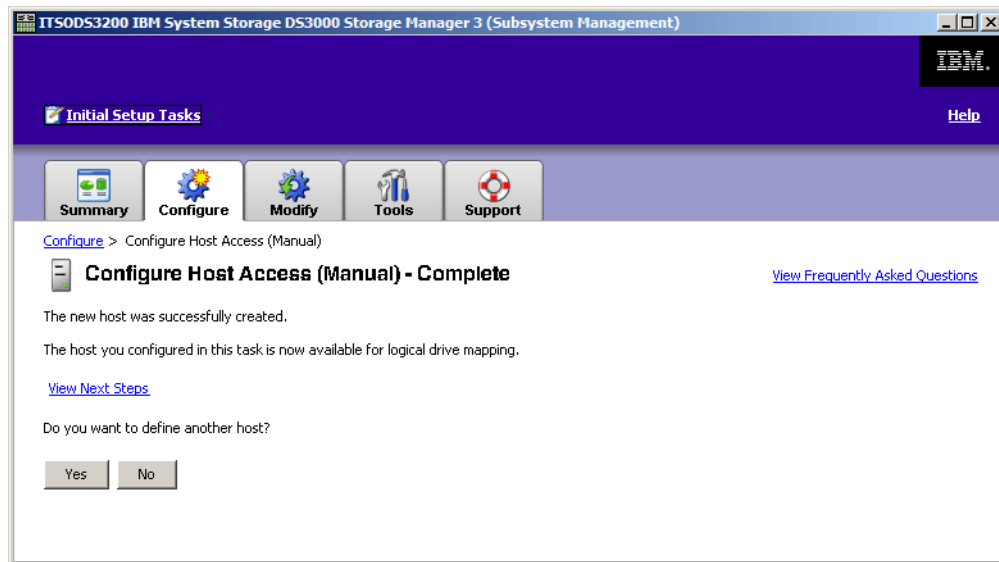

Figure 20-31 Host access completed
8. Click **No** to exit the host configuration when presented with the next window, as shown in Figure 20-31.